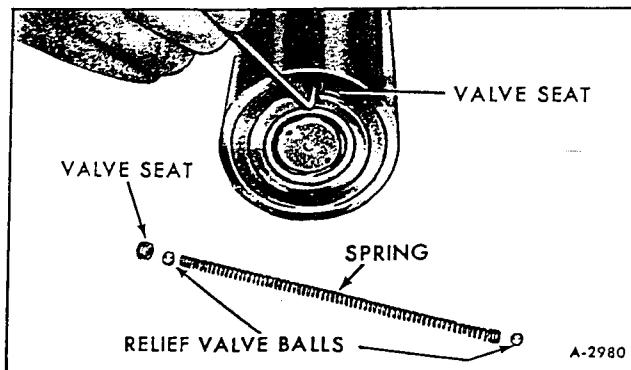

Figure 27 - Removing Valve Seat
6. Remove remaining reversing spring from piston. Remove valve seat using a 3/16-inch Allen wrench (fig. 27).
8. Position relief valve spring and one relief valve ball into the valve bore. Use a 3/16-inch Allen wrench to install one of the valve seats (fig. 27).